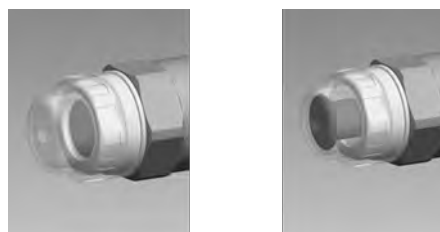

Fig. 9: Visual diaphragm rupture sensor, triggered and untriggered
With the **visual** diaphragm rupture sensor, the lowered red cylinder (6) springs forward beneath the transparent cover (7) so that it then becomes clearly visible Fig. 9.